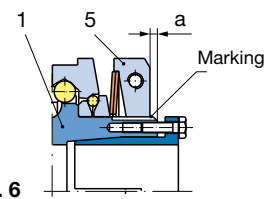

Fig. 6
- EAS®-Compact® overload clutch (sizes 01-3): Dimension “a” is the distance between the adjusting nut facing side (5) to the hub edge (1) (Fig. 6).